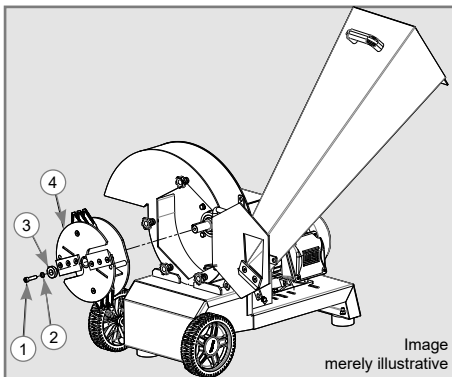

Figure 5
- ✓ To sharp the cutting blades of the TRR 180/190, you have first to withdraw the disk (4):
- ✓ As shown in Figure 5, loosen the disc clamping screw (1), remove the lock washer (2), the adapter sleeve (3), and, if required, manually pull the disc (4) out. Use a lever to help remove the disc.